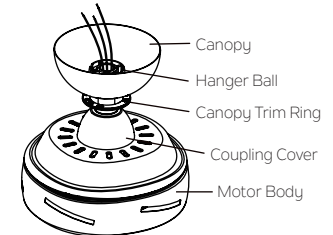

Fig. 9
Step 5. Slip the coupling cover, canopy trim ring and canopy onto the downrod. Carefully reinstall the hanger ball onto the downrod. Make sure the cross pin is in the correct position and the set screws are tight and the wires are not twisted. (Fig.9)